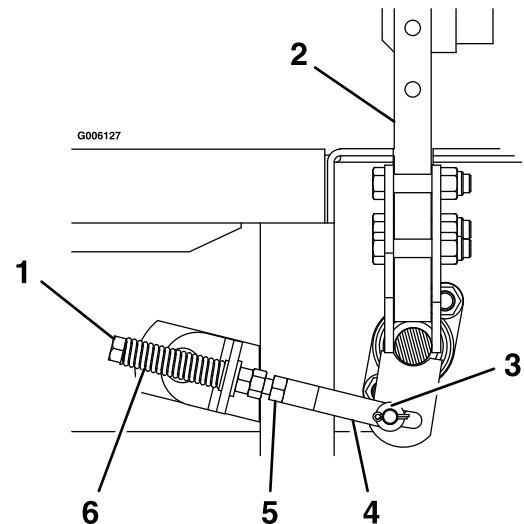

Figure 27
3. Begin with either the left or right motion control lever. Move lever to the neutral position and pull lever back until the clevis pin (on arm below pivot shaft) contacts the end of the slot (just beginning to put pressure on spring). (Figure 27).